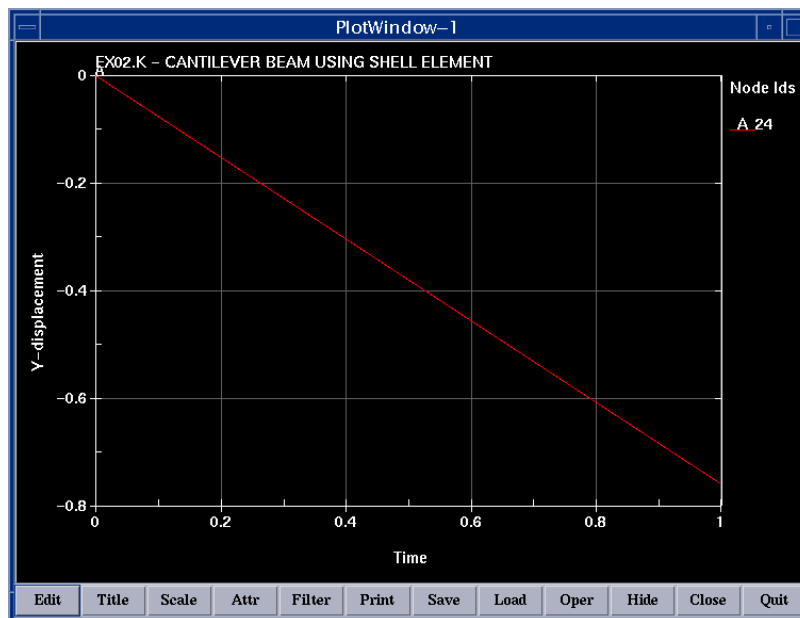

Figure 10: Node 24 y-displacement plot from t_0 to t_{201} .
8. Load *nodout*, and now you can display the XYPlot of the nodal data that we have in *nodout* (Figure 10).